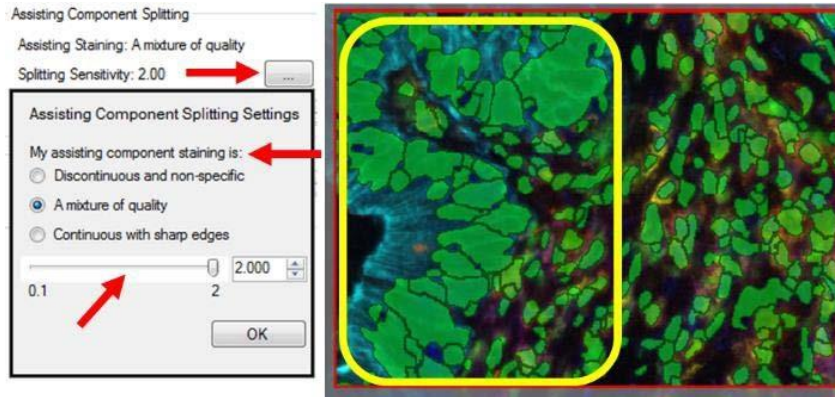

FIGURE G.8. Slider Right - Higher Value.
- Moving the slider right (higher values) reduces the amount of splitting. (Figure G.8.)